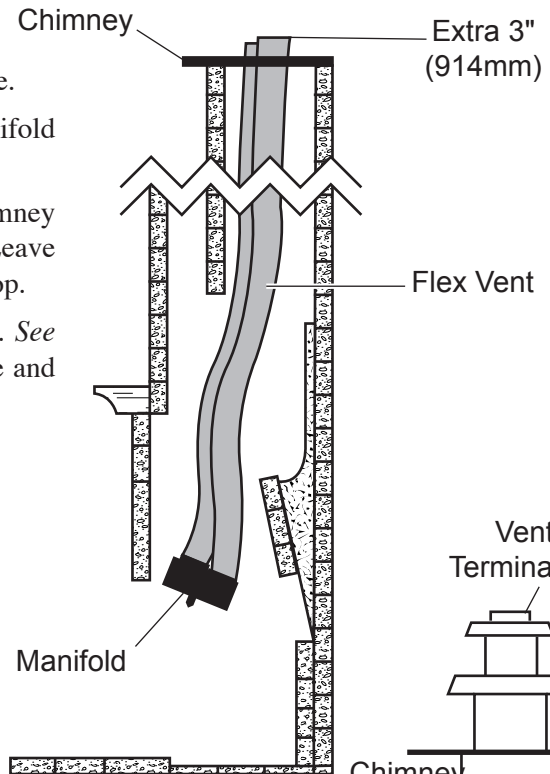

Figure 11 - Attaching Flex Vent to Manifold
4. Attach flex vent to manifold. See Figure 11. Seal with silicone and attach with screws.